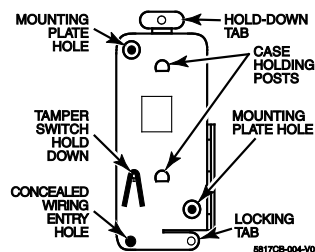
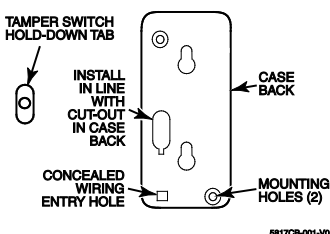

Figure 1. Mounting Plate
Figure 2. Case Back
2. Disengage the supplied mounting plate from the unit by inserting the blade of a small screwdriver into the mounting plate release hole (see Figure 2) and pushing the locking tab out (see Figure 1). Slide the mounting plate downward along the case back.